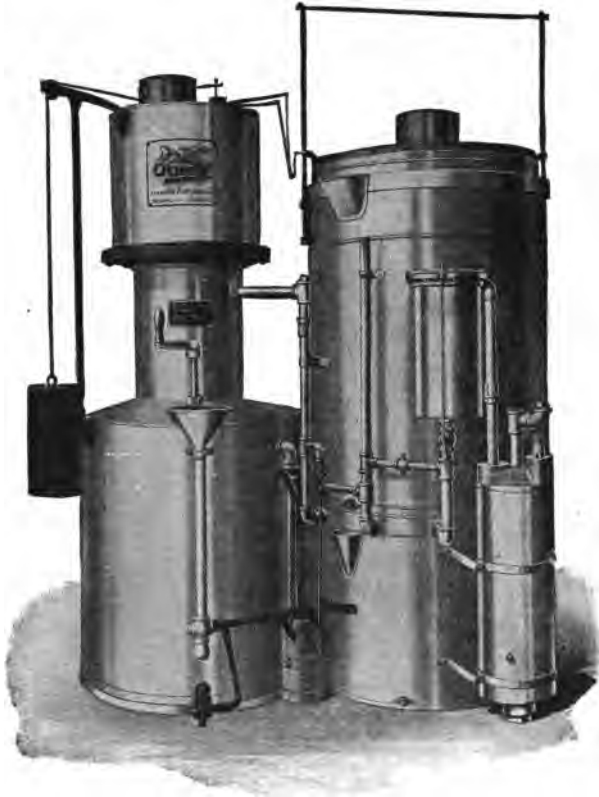

Fig. 4. Low-Pressure Acetylene Generator
**Low-Pressure Generator.** This type of generator, Fig. 4, delivers acetylene to the blowpipe under a pressure of less than one pound. This system has the advantage of maintaining at all times an abso-